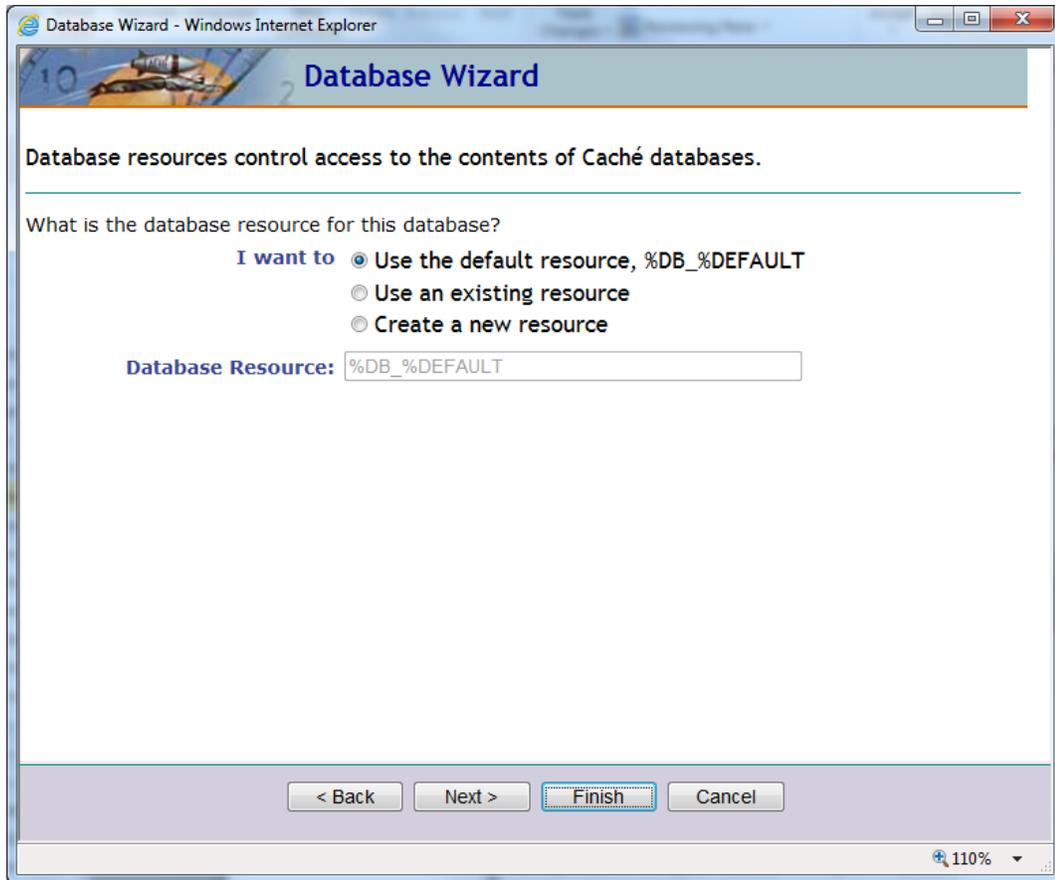

Figure 4-18: Database Wizard dialog
- Initial Size (MB): **10**
12. Click **Next** and the **Database Wizard** window displays as shown in Figure 4-18: